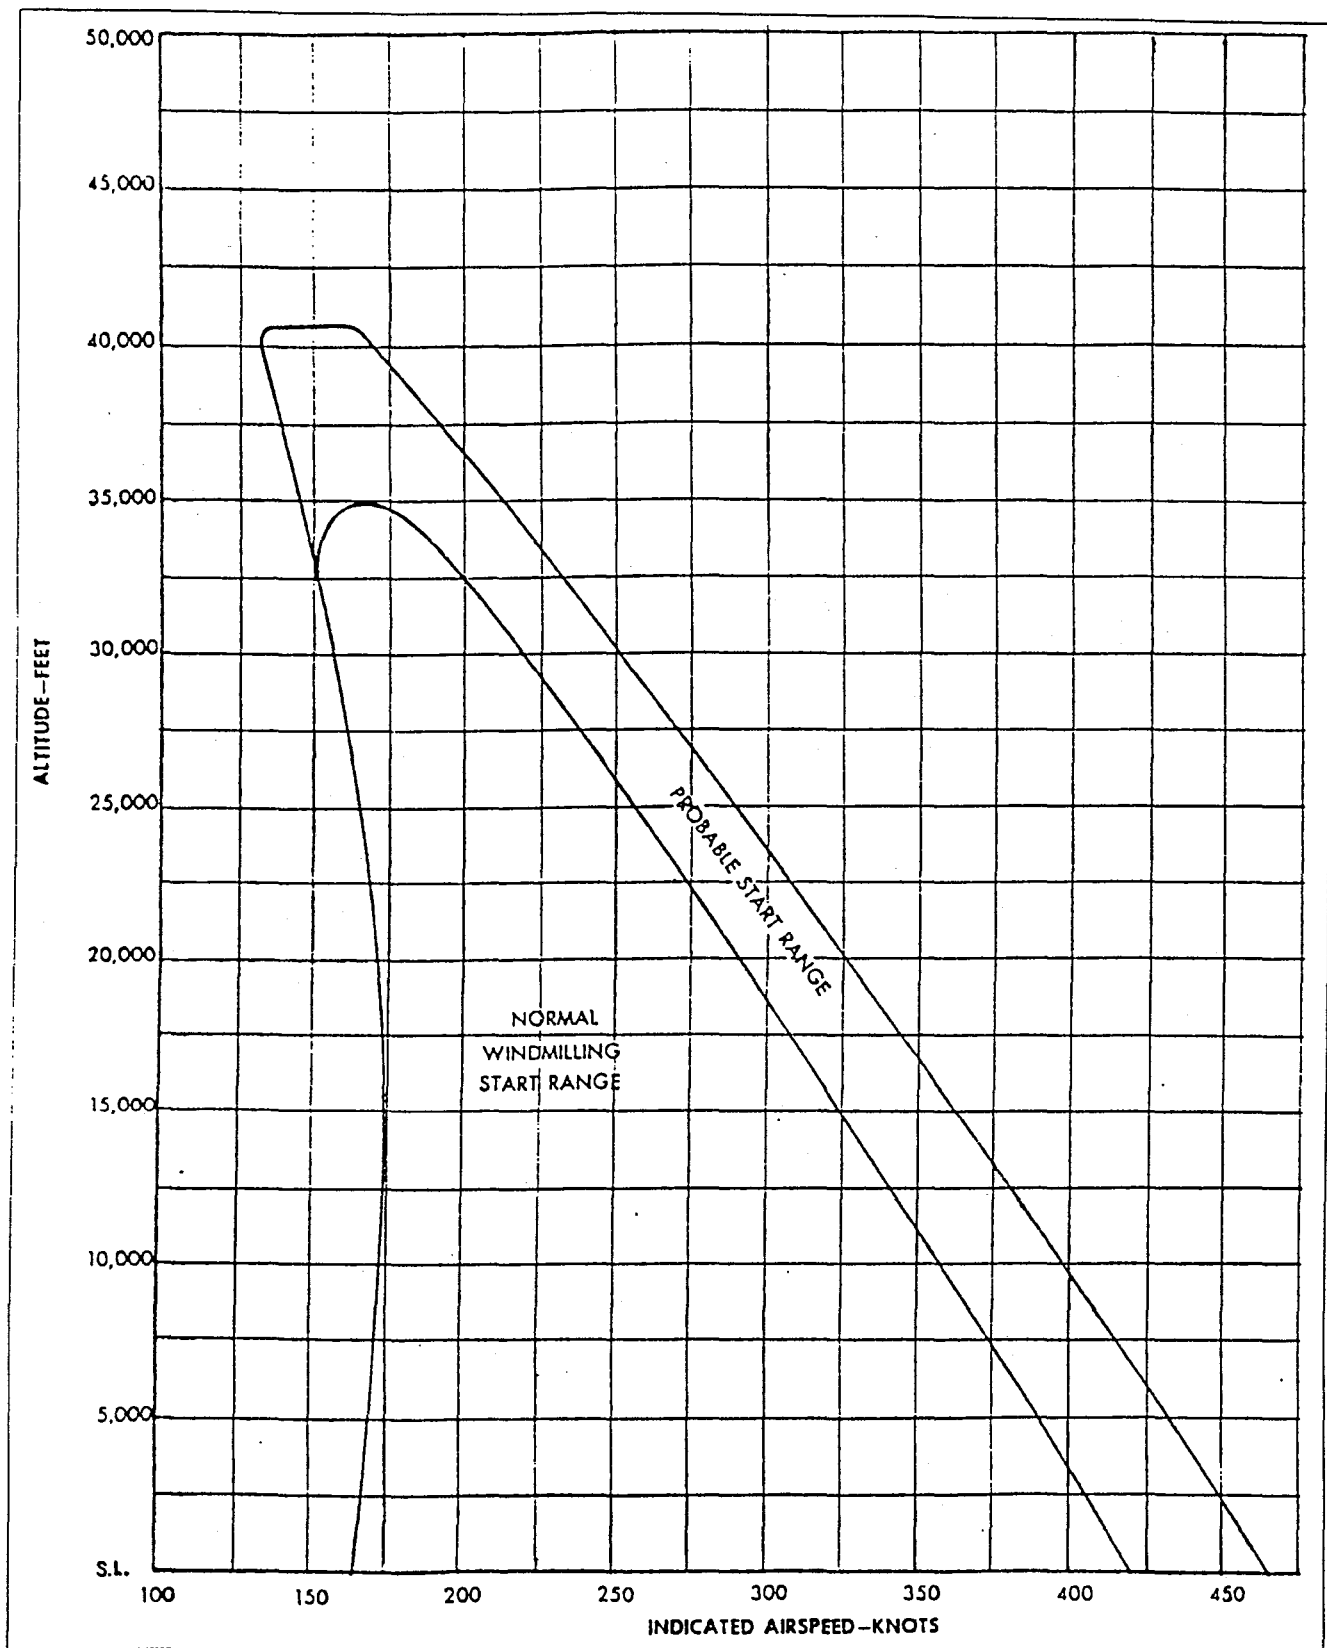

FIG 3-1 J75 RELIGHT CHART
3. The J-75 engine will relight at any combination of airspeed and altitude which falls within the "Normal Windmilling Start Range" indicated on Fig. 3-1. The "Probable Start Range" represents those combinations of airspeed and altitude at which engine relights may frequently, but not always, be made. For best results, when operating above the maximum altitude and airspeed combinations indicated in the "Normal Windmilling Start Range", reduce either the airspeed, the altitude or both until they are within the ranges shown on the chart.
- (d) Adjust the IAS and altitude to within the "Normal Windmilling Start Range" (Fig. 3-1).